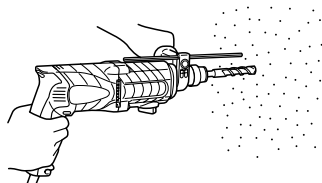

Fig. 8
- (1) Mount the drill bit.
- (2) Pull the trigger switch after applying the drill bit tip to the drilling position. (Fig. 8)
- (3) Pushing the rotary hammer forcibly is not necessary at all. Pushing slightly so that drill dust comes out gradually is just sufficient.
- **When the drill bit touches an iron reinforcing rod, the bit will stop immediately and the rotary hammer will react to revolve. Therefore please grip the side handle and handle tightly as shown in Fig. 8.**